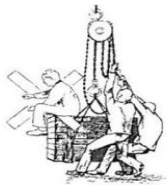

Fig. 1
7. DO NOT use the hoist to lift, support or transport people. **(fig 1)**